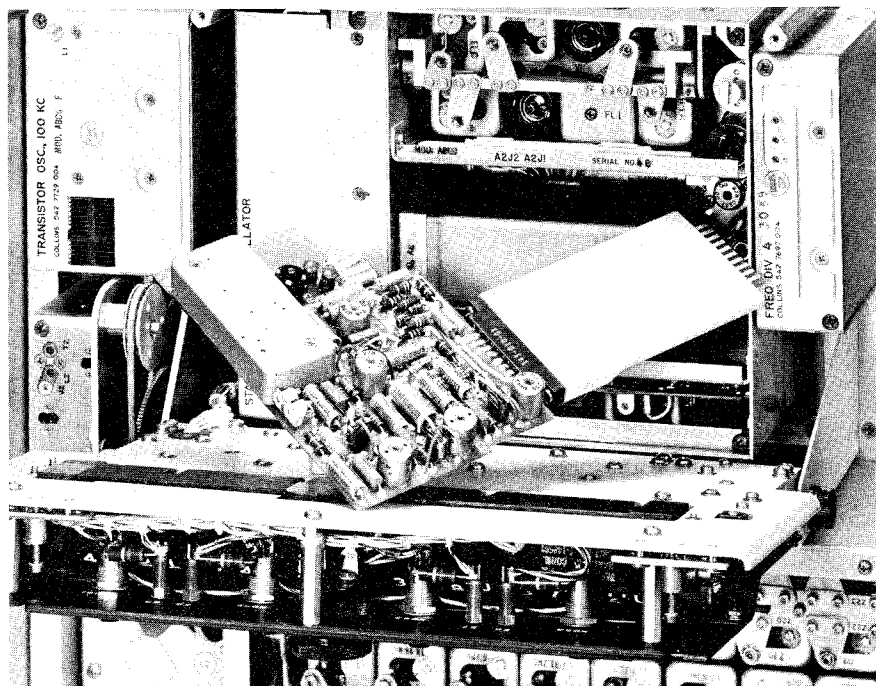

Figure 5-3. Typical Application of SMO Subassembly Extension Board
(2) CONVERTER-OSCILLATOR CV-731/URC. - The equipment necessary to perform alignment and adjustment of Converter-Oscillator CV-731/URC (frequency generator) is listed in table 4-5. Refer to schematic diagram figure 5-101 and use as a guide when performing the frequency generator adjustments and alignments. Each module or subassembly requiring adjustment or alignment is considered separately. Alignment of some of the modules requires use of extension cables and extension boards (figure 5-3). Use an r-f probe with the vtvm